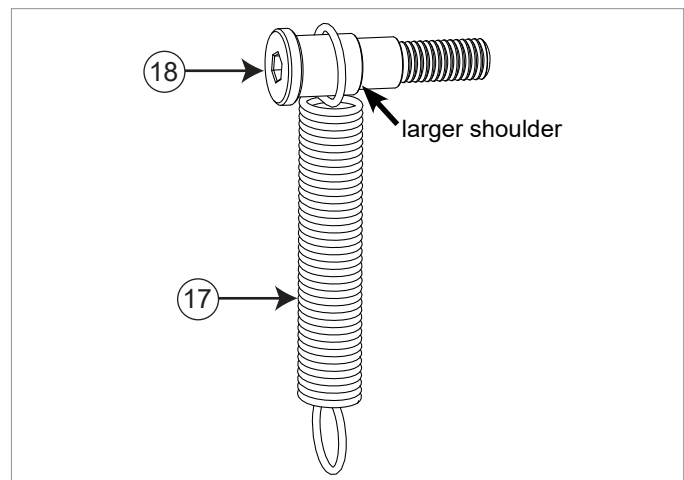

Fig. 13
13. Locate the extension spring and the release lever locking screw. Note that the screw has two shoulders, one with a larger diameter next to the head, and one with a smaller diameter next to the threads. Slide one end of the extension spring over the larger shoulder (see Fig. 13).